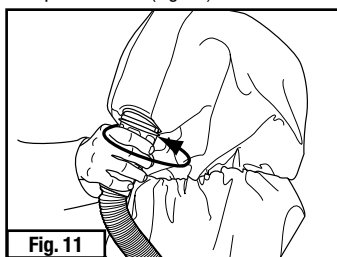
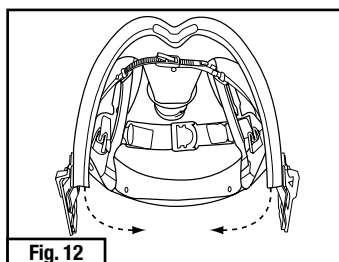
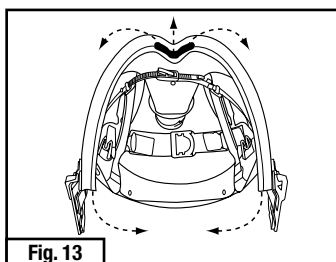

Fig. 11
Fig. 12
Fig. 13
- Adjust the airflow of the S-950 Premium Head Suspension for wearing comfort by rotating the Airflow Adjustment Cover (S-955) according to Fig. 11. While wearing, the airflow may be directed primarily to the front visor (Fig. 12) or split to provide more airflow to the top of the head (Fig. 13).